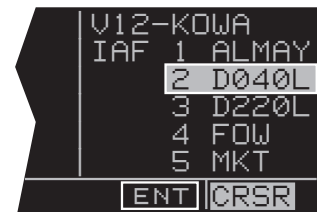

Figure 6-23
1. ATC assigns the VOR RWY 12 approach. Turn to the APT 8 page for KOWA to select the approach. You select the VOR 12 approach and the KLN 900 presents the IAF selection page (figure 6-23).